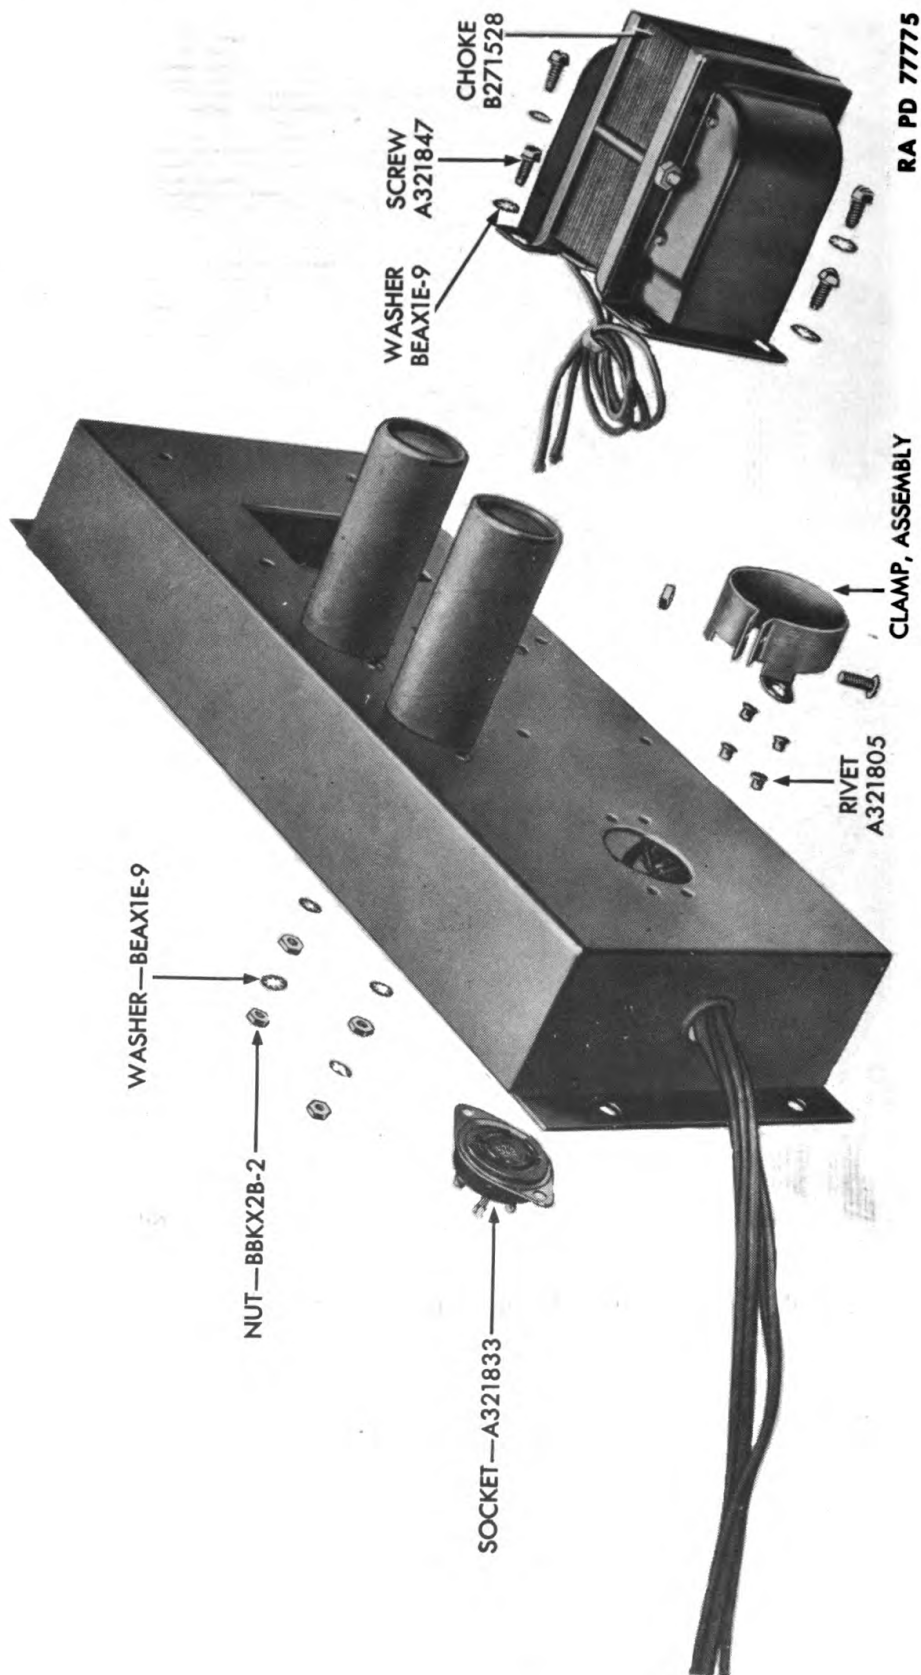

Figure 101 — Removal of Choke, Tube Socket, and Related Parts From Power Supply Chassis
(14) Unsolder leads to the choke (fig. 101). Remove the four screws, lock washers, and hexagonal nuts to permit removal of the choke. Drive out the retaining rivets to remove the tube socket and the clamp assembly.